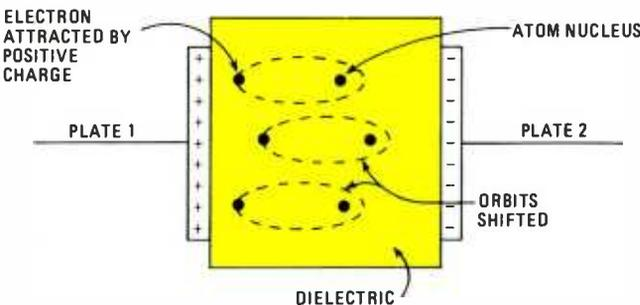

Fig. 4—The charges on a capacitor's plates attract one another and set up an electric field in the dielectric.
Now flip to Fig. 4 for the following discussion. The carry-out signal (tab 7 on E1) is inverted by the 4001-a gate as the clock pulse for the first half of the 4013 flip-flop. This latches the end of count and turns on the relay via the inverter 4001-b and the transistor. At the same time, the output at "Q" (pin 1 of the left half-section of 4013) clocks the second flip-flop to disable the incoming clock pulses at the Counter Module tab 7 on E1 by enabling the carry-in tab (tab 2 on E1). This second flip-flop also latches the control functions Stop/Start. The whole function of the module is preset via the RESET button S31, to the value set by the Preset Switches. If these switches are all off, the counter would be set to "000." The counter action is initiated by the START button S32.
7. (Coulombs 6.28×10^{18}) If the battery is disconnected from the capacitor by opening S1, the capacitor retains the charge. The positive charge on plate 1 attracts the negative charges on plate 2 through the dielectric. Remember the law of electrical charges: "Unlike charges attract, like charges repel." No electrons flow between the two plates, however, because the insulating dielectric prevents that. However, the electrons in the atoms in the dielectric are shifted out of their normally circular orbits. See Fig. 4. That shift is a stress on